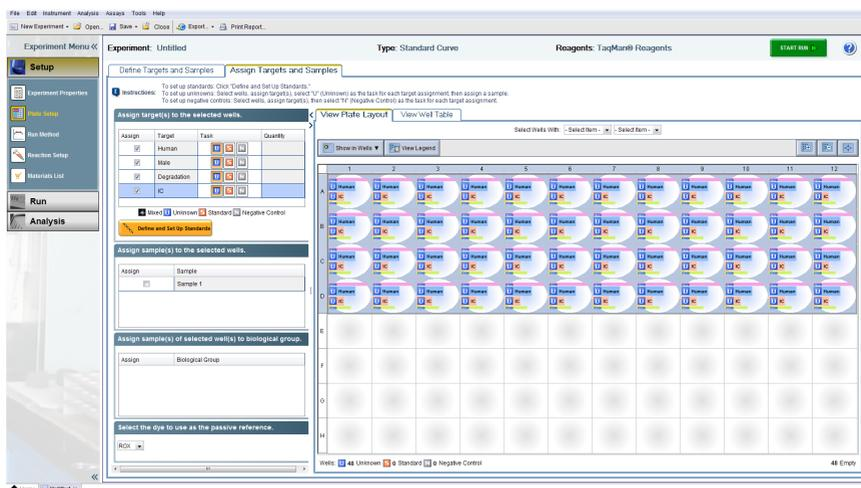

Figure 28. Assigning the Targets.
- Switch to the tab **Assign Targets and Samples**. In the **Plate Layout**, select the wells in use and assign all four Targets by checking the boxes (Figure 28).